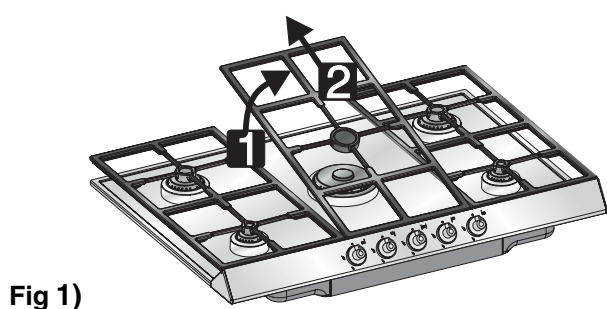

Fig 1)
- Remove the pan stands (Fig.1) by lifting them at the back (1) and extracting them (2). (On 70 cm hobs remove the central pan stand first; on 60 cm hobs the right-hand pan stand must be removed first);